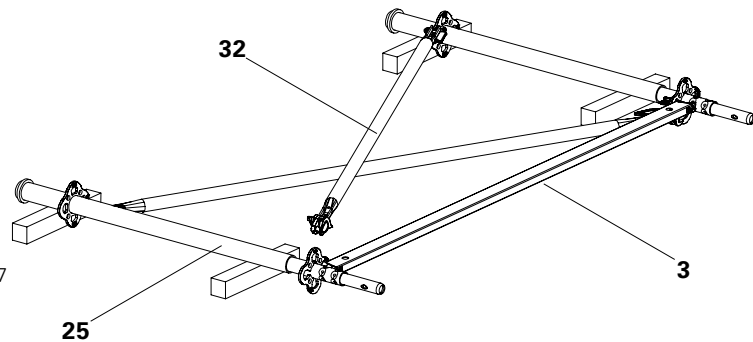

Fig. A3.07
1. Connect Base Standards (25) to the Ledger (3).
2. Install Shoring Braces (32) crosswise. (Fig. A3.07)